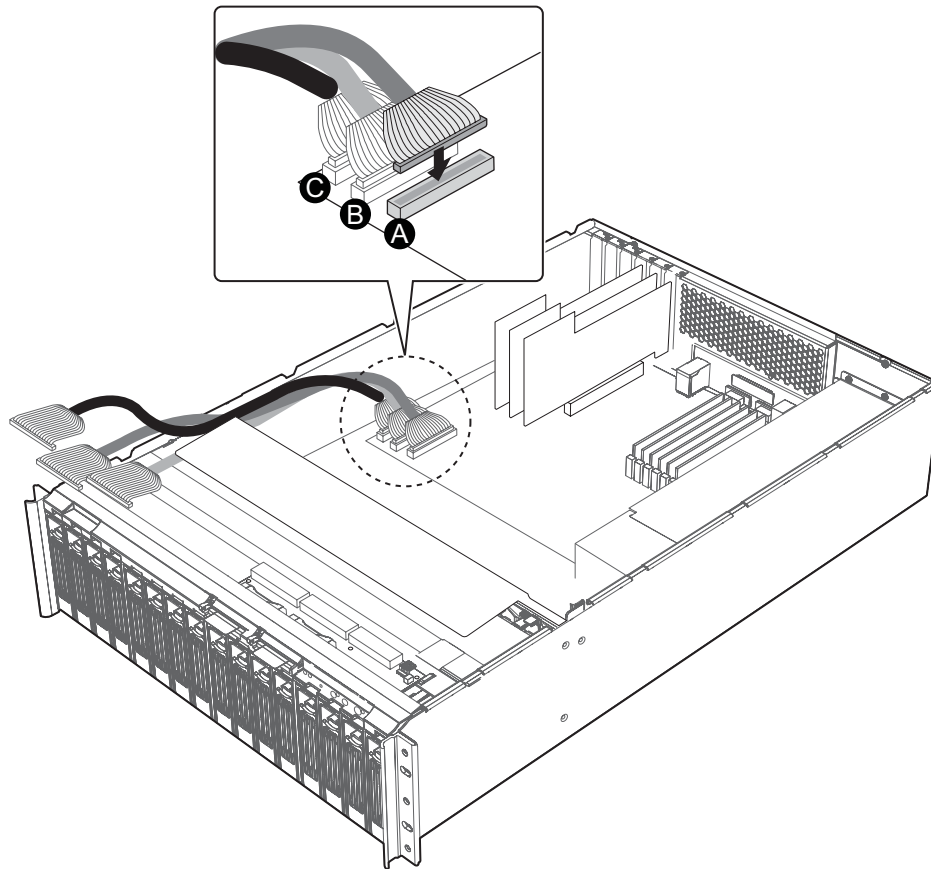

Figure 26. Installing Front Panel Cables on Baseboard
- A. Open the Front Panel Cables package that is part of the new FMJCABLES Cable Kit. Route the front panel cables along the side of the chassis in the same way that the original front panel cables were routed. Connect the Primary IDE Cable labeled J2J2 to its connector receptacle on the baseboard. See Figure 26.
- B. Connect the Secondary IDE Cable labeled J1J4 to its connector receptacle on the baseboard. See Figure 26.
- C. Connect the Front Panel Cable labeled J1J2 to its header on the baseboard. See Figure 26.